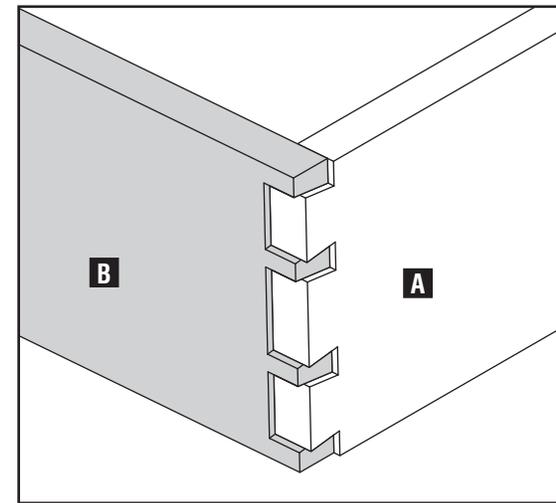

Fig. D17
RECESSED: If the end grain on the tailboard (A) Fig. D17, is recessed (or sunk below the other board as shown in Fig. D17), then the cut on the tailboard needs to be deeper. To correct, increase the depth of cut of the router bit.
RECESSED: If the end grain on the pinboard (B) Fig. D17 is recessed (or sunk below the other board as shown in Fig. D17), then the cut on the tailboard needs to be deeper. To correct, increase the depth of cut of the router bit.